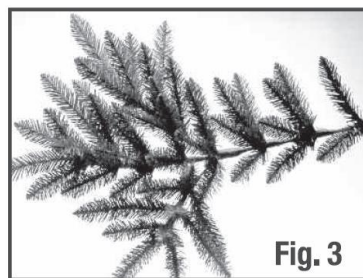

Fig. 3
Insert the Top Tree Section into the Green Plastic opening of the lower Tree assembly. This is the "Pole Cap" which keeps Tree top section securely in place(Figure 3). For larger Trees with middle section carefully insert middle section pole(s) into bottom section pole (Figure 4) as instructed in SPECIAL NOTE ABOUT GLANT TREES below.
3. Each individual tip should then be spread out separately. Tips should then be bent slightly upward to add a more natural looking appearance. Figure 3 shows a typical tree Branch after shaping.